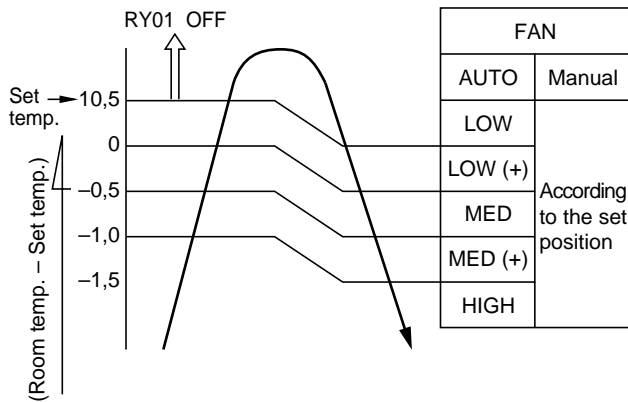

Fig. 7-3-2
- (2) A heat operation is carried out when the indoor microcomputer sends the operation signal to the outdoor microcomputer. The indoor fan motor operates as shown in Fig. 7-3-2, when the FAN is set to AUTO.